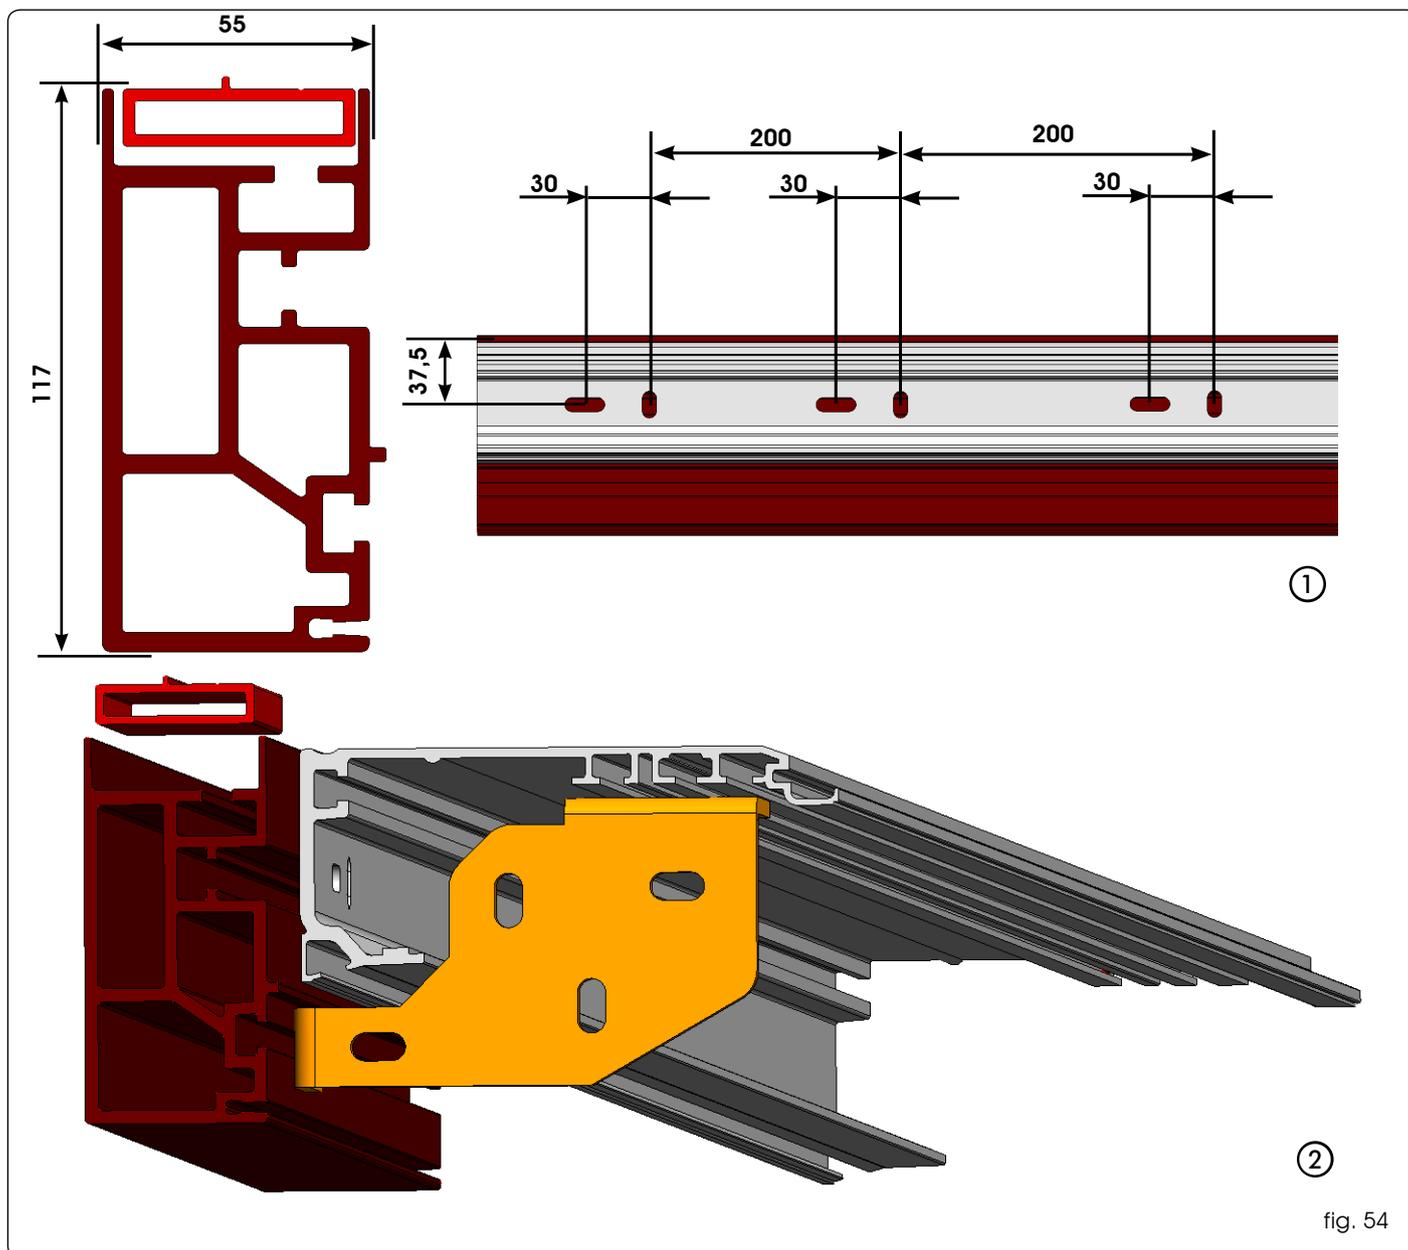

fig. 54
- Drill a series of holes on the free-standing profile in the position indicated in fig.54 at a distance of approx. 200mm between each other.
- Determine the exact position of the free-standing profile taking into consideration the overall dimensions of fig. 54 ①.
- Secure the free-standing cross beam to one end. Lift the cross beam and level it parallel to the floor. Secure the other end. Secure centrally by lifting the cross beam with strength in order to align the three fastening points fig.54.
The cross beam of the automated system with the free-standing profile can be secured to both ends by using the side brackets accessory, fig. 54.
- Determine the exact position of the cross beam taking into consideration the overall dimensions indicated in fig. 54.
According to the cross beam length, intermediate fastening operations can be required and executed by means of the guide shown in fig.54.
- 3) Drill the necessary holes on the free-standing profile in the position shown in fig.54 ①.